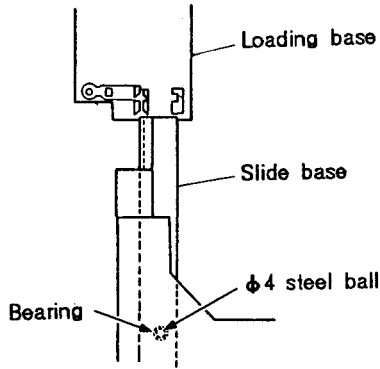

Fig. 10-13
<p>Re-mount the disc tray according to the following procedure when the grating adjustment is complete.</p> <ol style="list-style-type: none"> <li>1. Remove the disc and the spacer.</li> <li>2. While lifting the clamp holder [marked ② in Fig. 10-4] with the right hand, hold the tray in the left hand as indicated by ③ and slide the slide base into the hard resin fittings on the loading base as shown in Fig.10-13 to re-insert the disc tray. At this time, be sure to hold the steel ball in place with the index finger of the left hand. Also, be careful that the front panel is not damaged by the slide base and bearing of the steel ball's bearing (in the slide base) coming into contact with the panel.</li> <li>3. Insert the slide base so that it fits into the two hard resin fittings at the rear of the loading base (see Fig10-14).</li> <li>4. Insert the tray all the way.</li> </ol>